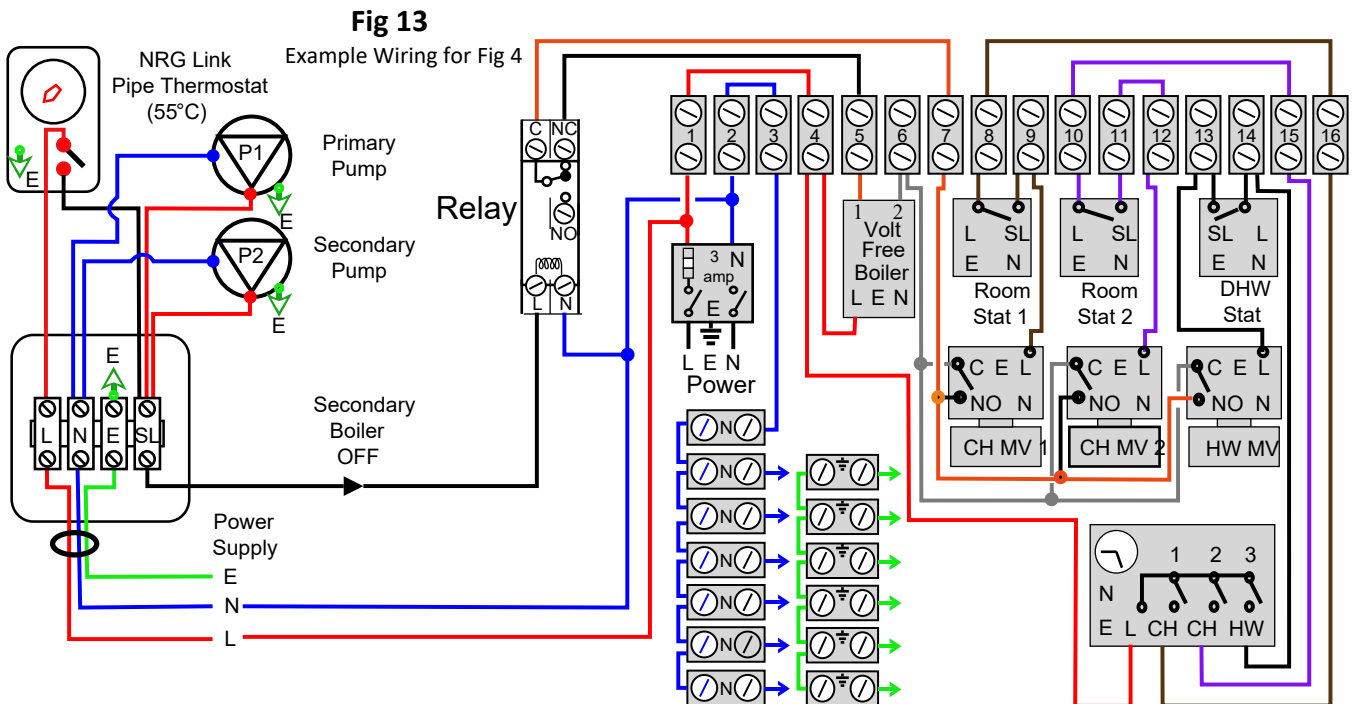

Fig 13
Fig 13 shows NRG Link with a 3 Motorised Valve ('S' Plan) with a common power supply. If required, an additional relay may be used to break the 'S Plan' volt free boiler control Link at terminals 7 (C) & 5 (NC) on the controls terminal strip when the relay coil is energised by the NRG Link. By this means the secondary boiler can be switched off when the solid fuel (Biomass) boiler has achieved its set-point on the NRG Link internal thermostat.